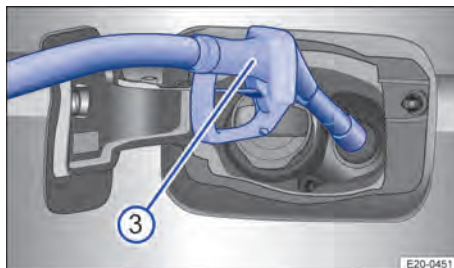

Fig. 167 Refilling AdBlue with a pump nozzle.
1. Hold the AdBlue® nozzle so that the handle is facing down in order to ensure optimum filling → Fig. 167 ③.
3. The AdBlue® tank is full when the nozzle clicks off for the first time → ①.